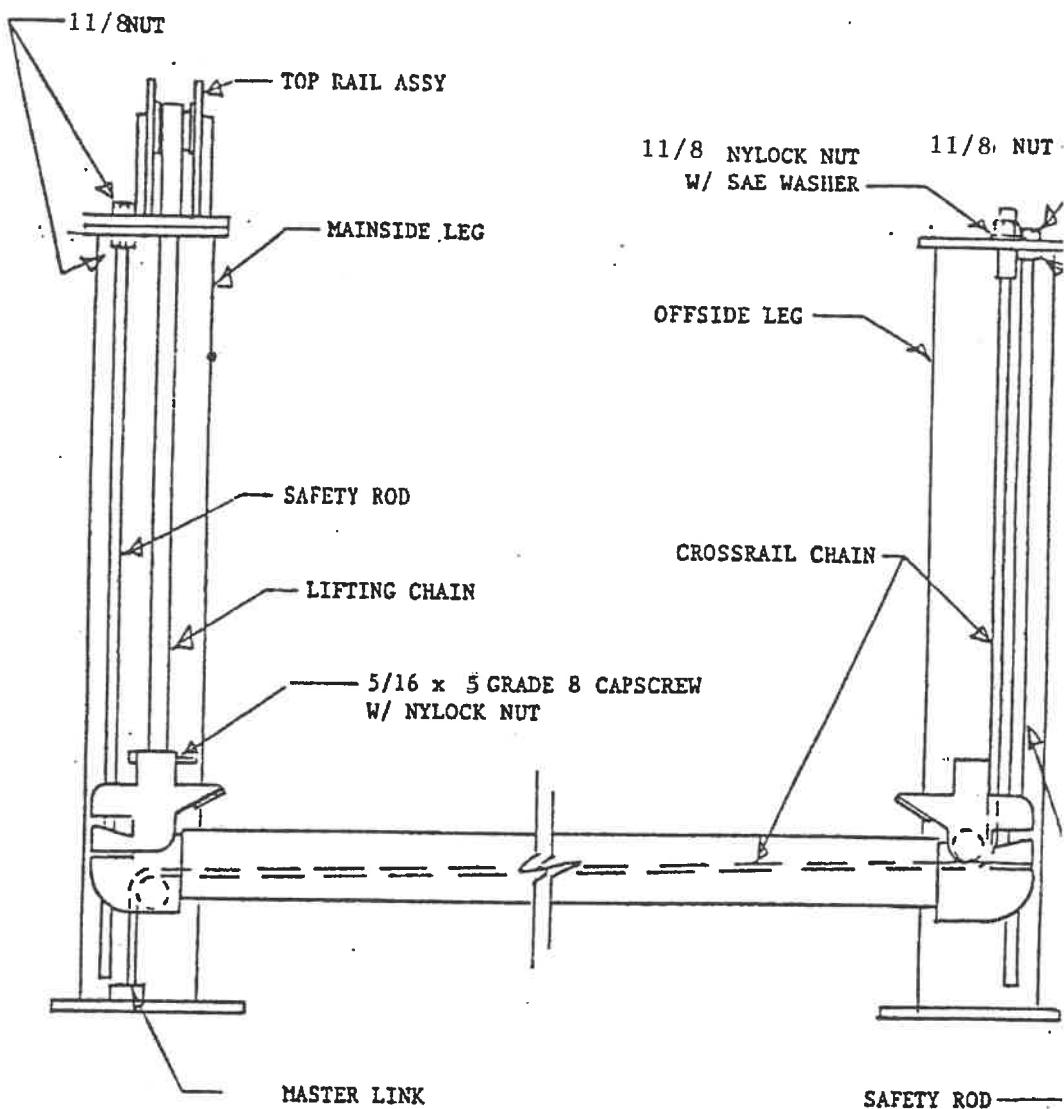

Figure 6. 12000 # lift, Crossrail Chain Arrangement
**Step 12.** Use the pull wire to pull the cross rail chain thru the cross rail tube. The chain runs over the sheave at the mainside end and under the sheave at the offside end. See fig 6. Repeat for the other cross rail.